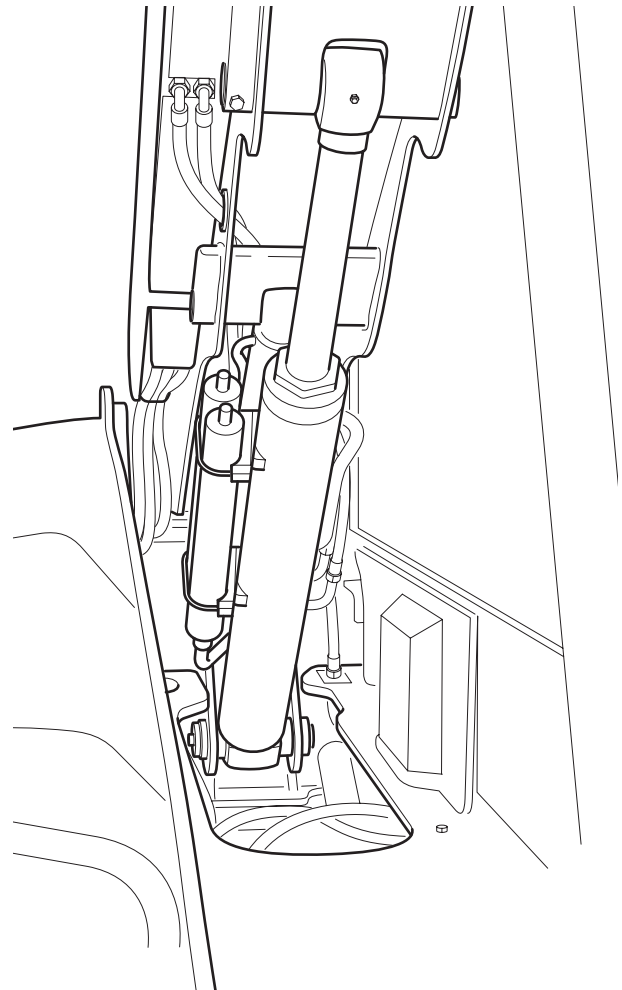

Fig 5.
- 5 Debris can collect under the boom. ⇒ Fig 5. \(□ 3-29\). Remove especially all combustible material.